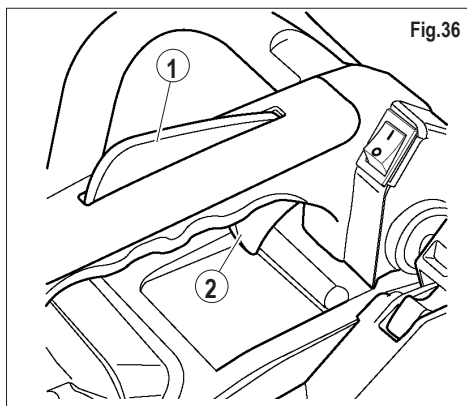

Fig.36
**10)** Using the palm of your hand, press the throttle trigger lock-out (fig. 36 part. 1) and then press the throttle trigger (fig. 36 part 2); this way **“THE THROTTLE ADVANCEMENT”** will disengage and the engine will run at minimum speed.